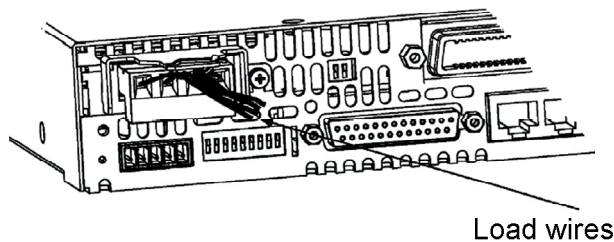

Fig.2-6: Protective shield and wires assembly
6. Tighten the wires to one of the shield sides using ty-wrap or equivalent. Refer to Fig.2-6. Ensure that the wire length inside the shield is long enough to provide strain relief.